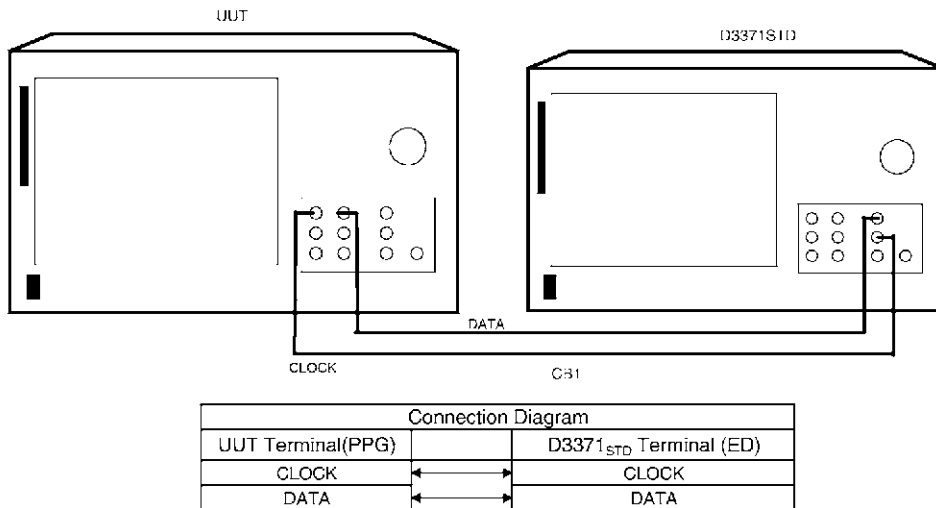

Figure 1-4 Setup of Error Free Test
1. Connect equipment as shown in Figure 1-4.